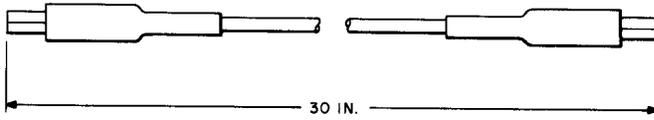

Fig. 17—737A Clutch Pin Probe Tool
2.17 737A: The 737A clutch pin probe tool (Fig. 17) is used in connecting two terminals of the wiring field together. This tool is equipped on both ends with a clutch test probe.